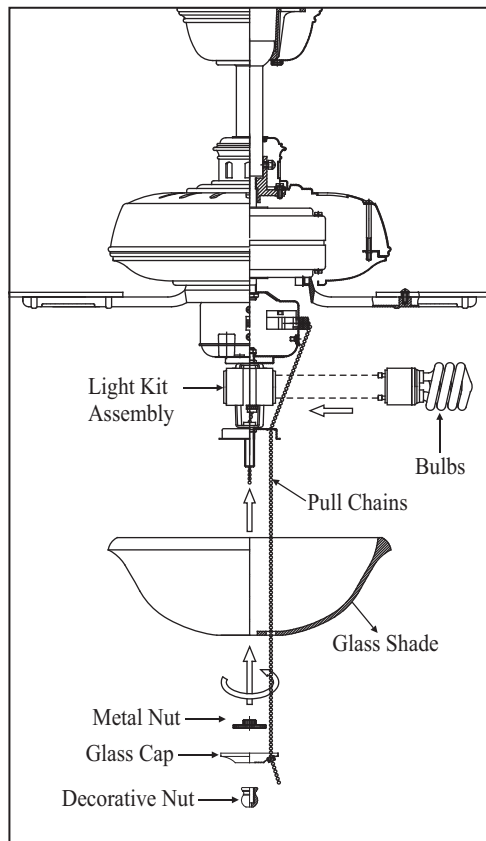

Figure 16
4. Remove the metal nut, glass cap and decorative nut from the light kit stem. Place glass shade over the light kit stem, secure with the metal nut (rubber side on the top), glass cap and decorative nut. DO NOT OVER TIGHTEN. (Fig. 16)